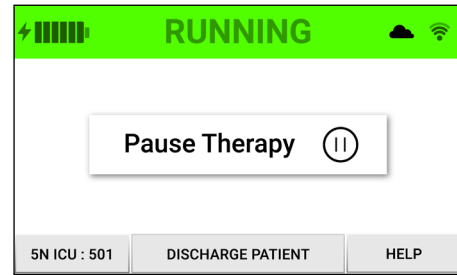

Figure 5 Running screen
1. Therapy can be stopped by pressing "Pause Therapy" on the running screen. (Fig. 5)